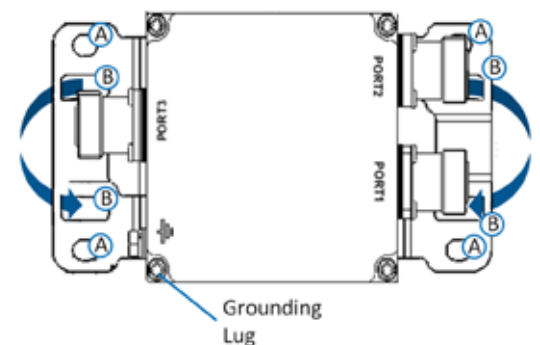

Figure 9. External Combiner Mounting Options and Grounding Lug
- Step 1.** Using combiner bracket mounting holes (indicated as “A” in Figure 9) as a guide, mark and drill four holes for M6 bolts (provided with external combiner).
Slip a hose clamp through the holes (indicated as “B” Figure 9) at each end of the factory-assembled mounting bracket and secure to pole by tightening.
- Step 3.** For installations with GX external combiner – connect the grounding wire supplied with the external combiner to the earth ground and to the combiners’ grounding lug (see Figure 9).